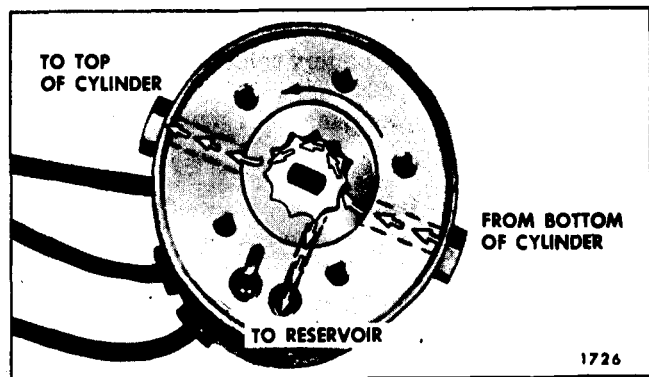

Fig. 12-21-Operation of Pump to Lower Top
2. Lowering the Top. When the green motor lead is energized the motor drive shaft turns the rotors counterclockwise as indicated by the large arrow in Figure 12-21. The action of the pump rotors forces the fluid under pressure to the top of each cylinder. This action causes the fluid below the piston in each cylinder to be forced into the pump which recirculates the fluid to the top of each cylinder. The surplus hydraulic fluid due to piston rod displacement flows into the reservoir.